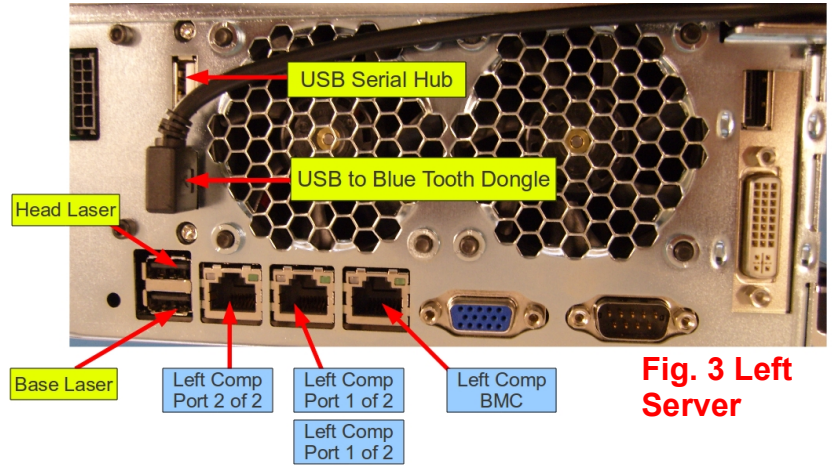
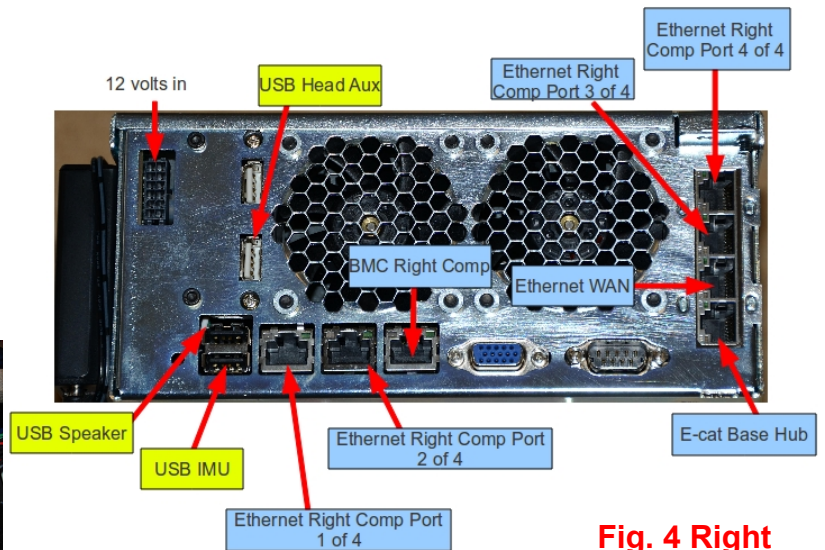

Fig. 3 Left Server
Fig. 4 Right Server
5. Reconnect all cables to the server. Look at the labels on the cables and (Fig. 3 for left server, Fig. 4 for right server) below